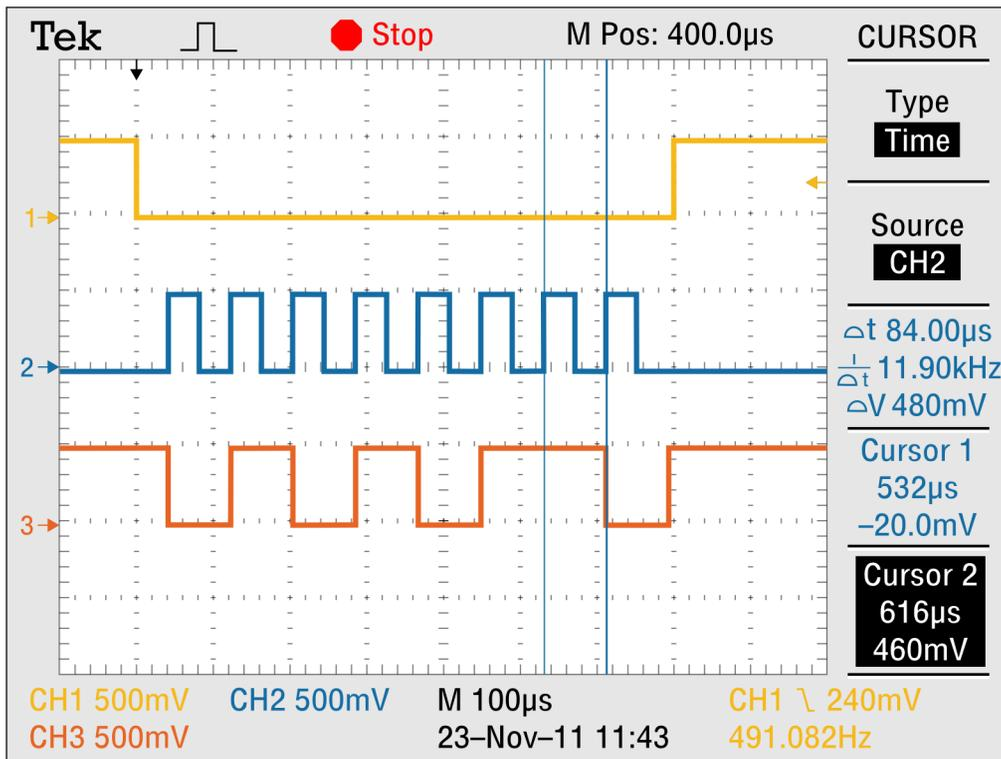

Figure 2. SPI protocol signals
2. Monitor the SPI transmission on the oscilloscope to see the relationship between Slave Select (PS7), data transmitted on MOSI (PS5), and the Serial Clock (PS6) signals. In Figure 2, the Slave Select signal is represented in orange, Data Transmitted in purple, and Serial Clock in blue color.